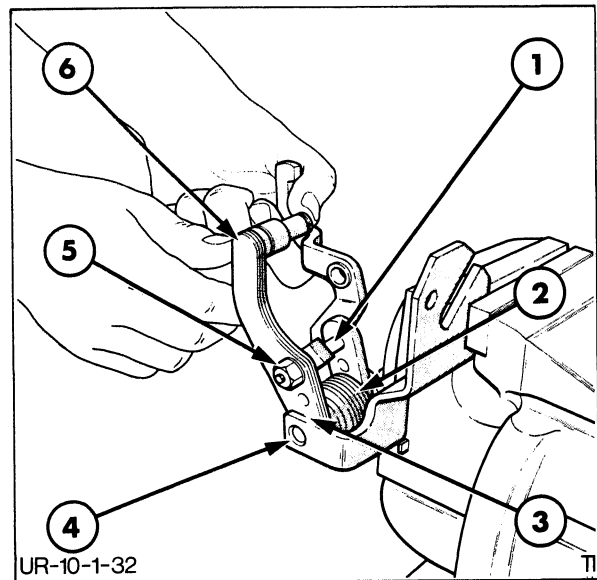

FIGURE 8-32
9. Mount the actuating linkage in a vice as shown in Figure 8-32.